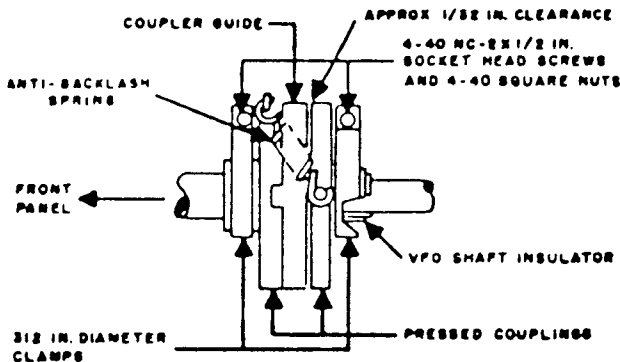

FIGURE 1
(1) PTO (VFO) Subchassis Removal **WARNING!!!:** Handle the PTO subchassis carefully to prevent damage or misalignment. To prevent misalignment, do not turn the PTO subchassis shaft or the KILOCYCLE CHANGE shaft (either outside or inside the front panel). To remove the PTO the R-390A is placed upside down. If the bottom dust cover is present, remove it. The PTO subchassis is in the center of the bottom three compartments. Locate the Oldham coupler and remove the anti-backlash spring, see Fig. 1 below. The
The Oldham coupler connects the PTO tuning shaft to the kilocycle change shaft. You will probably have to rotate the kilocycle change shaft with the front panel knob to bring the anti-backlash spring into a convenient position for removal. Do not loosen the spline socket head screws. To remove the spring I use a small hemostat which is ideal for delicate work like this. (Hemostats are also useful for soldering and unsoldering work, holding small parts, and other tasks, and are sold through several supply catalogs and at larger electronic supply stores. Or if you know a doctor or nurse, they will probably give you one or two free.) Put the spring in a safe place and do not lose it. Next rotate the kilocycle change knob until the Oldham coupler guide (the central disc) is in the position shown in Fig. 1 (when viewed from above). At this point, if you are the careless type, you should lock the KILOCYCLE CHANGE shaft with the front panel DIAL LOCK. Disconnect the blue plug P-109. (The metal cylindrical plug cover/lock mechanism rotates to unlock, and then the blue plug can be pulled out. If you cannot unplug P-109, examine the plug closely and make sure you have unlocked it.) Trace the white wire through the hole in the PTO compartment to the top side of the R-390A, unplug it from the RF subchassis (J 217), and pass it through the hole in the PTO compartment. Loosen the three green Phillips head screws completely, and carefully lift out the PTO subchassis. Because of the positioning of the Oldham coupler, and because you have locked the kilocycle change shaft, you must lift straight up. The coupler guide will probably fall free, but in any case remove the coupler guide and put it with the anti-backlash spring for safe keeping. PTO removal can also be accomplished with the R-390A on its side, but it is not as easy to replace the coupler guide in that position.